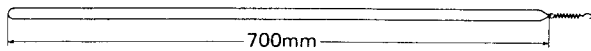

Fig. 9
1. Cut dial rope to approximately 1,600 mm in length. Tie its ends to form a ring. The rope length should become 1,400 mm. (Fig. 9)